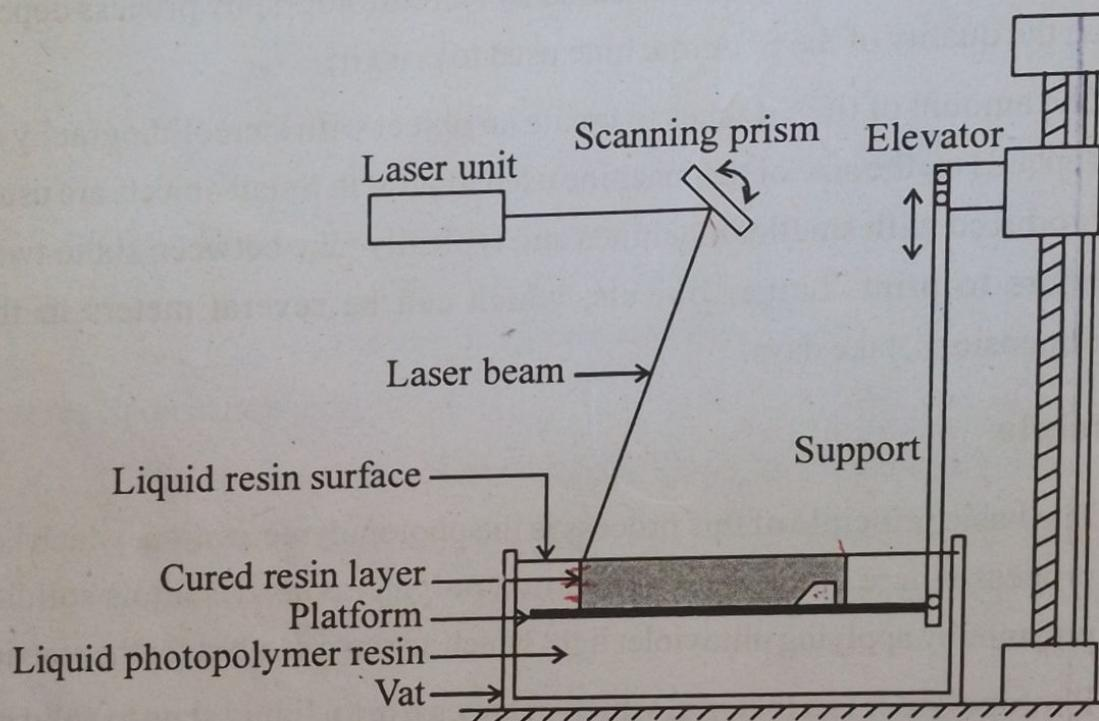

Figure 3.4 Stereolithography process
- ✓ Figure 3.4 is an illustration of the SLA process.